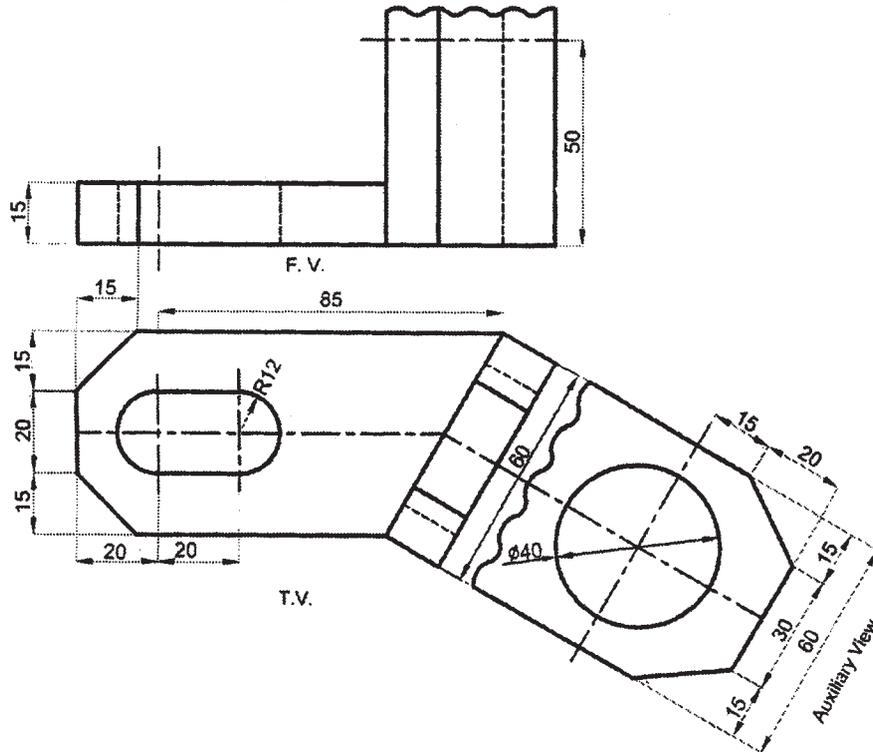

Fig. No. 5
- b) Figure No. 5 shows the incomplete elevation, plan and part auxiliary view. Redraw the given views and complete the elevation. Refer Figure No. 5